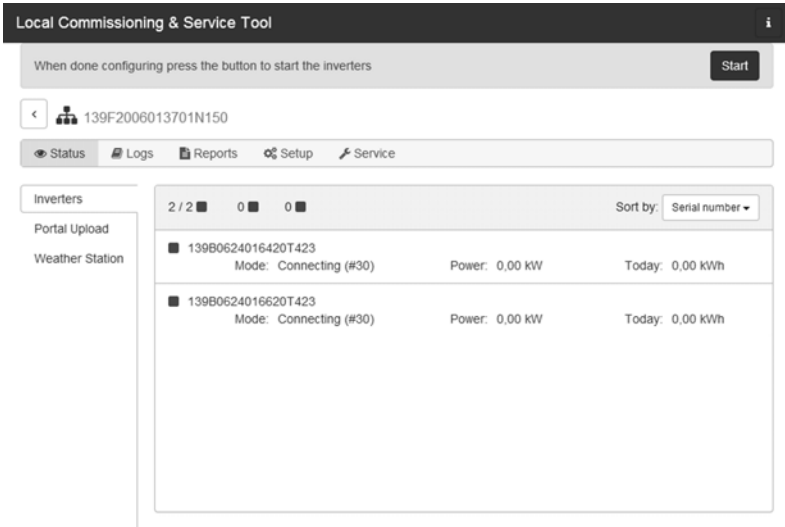

Figure 5.8 LCS tool - list of all inverters connected to the Inverter Manager
11. A green square identifies the commissioned inverters. The inverters are only connected to the utility grid when the **[Start]** command has been carried out from the bar below the start menu. See figure 5.8.